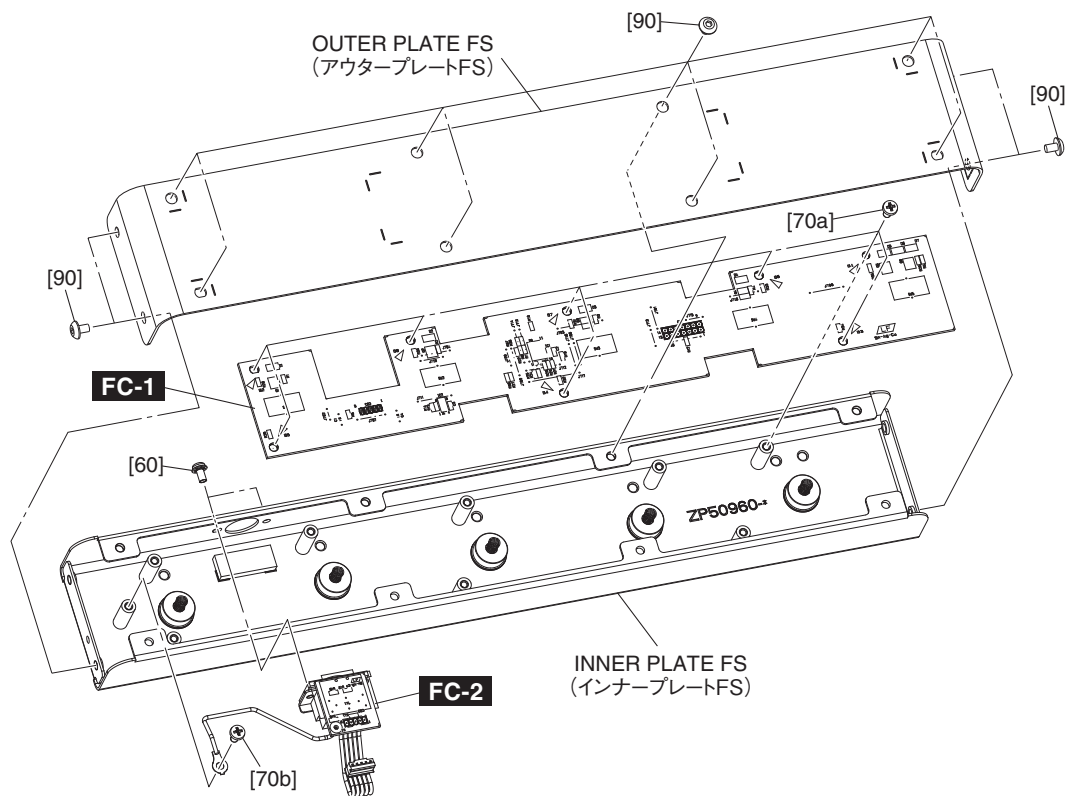

Fig. 1 (図1)
- 1-1 Remove the twelve (12) screws marked [90]. The outer plate FS can then be removed. (Fig. 1)
- 1-2 Remove the eight (8) screws marked [70a]. The FC-1 circuit board can then be removed. (Fig. 1)
- 2-2 Remove the two (2) screws marked [60] and the screws marked [70]. The FC-2 circuit board can then be removed. (Fig. 1)
- 1-1 [90]のネジ12本を外して、アウタープレートFSを外します。(図1)
- 1-2 [70a]のネジ8本を外して、FC-1シートを外します。(図1)
- 2-2 [60]のネジ2本と[70b]のネジを外して、FC-2シートを外します。(図1)